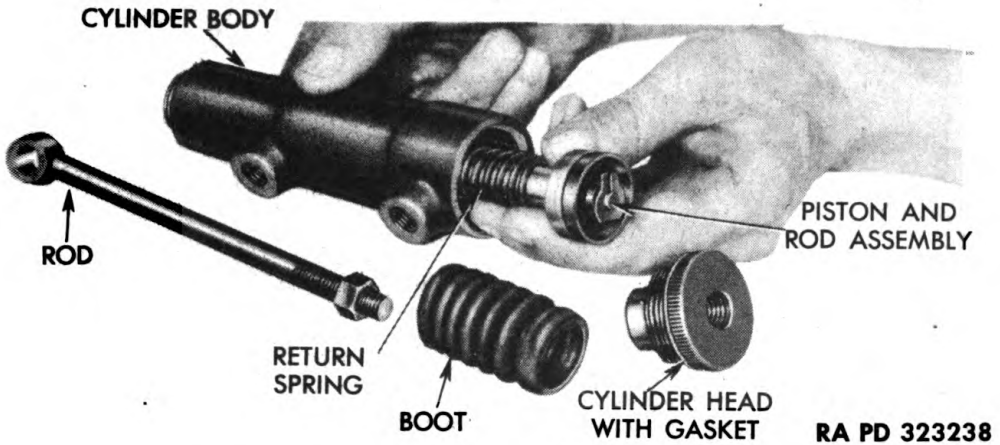

Figure 243 — Removing Piston and Rod Assembly
c. **Disassemble** (fig. 243).